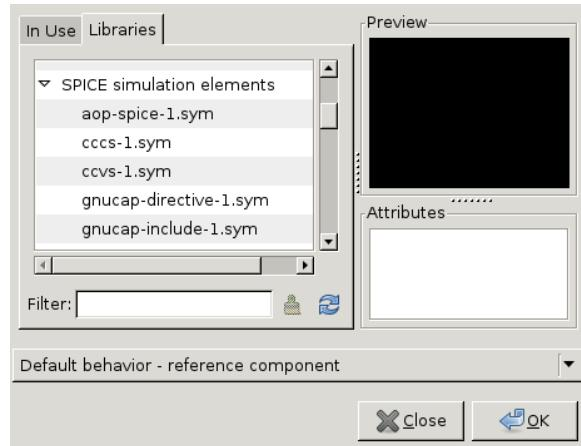

Figure 2.2. Select Component... dialog box.
- Click the “Add” menu and the “Component” menu entry, or click the symbol of an AND gate in the gschem tool bar. This will open a “Select Component...” dialog box such as the one in Figure 2.2.